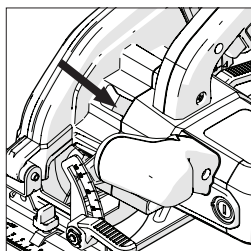

Fig. 3
- Locate the machines arbor lock button (which is similarly positioned on all machines). Lock the machines arbor by operating the arbor lock button. (**Fig. 3**).